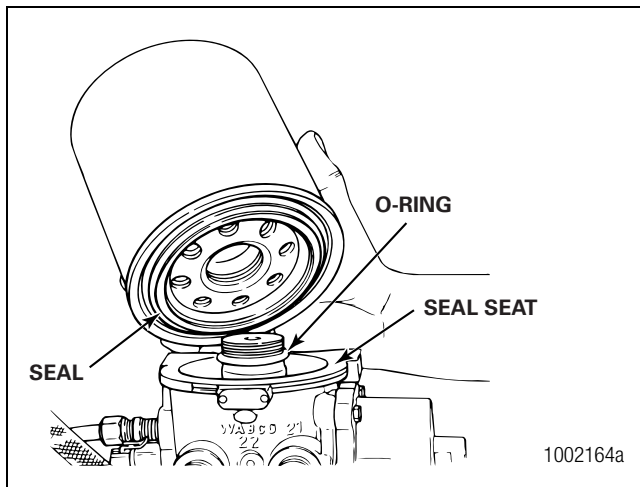

Figure 2.2
7. Thread replacement cartridge onto the base until the seal touches the base. Then, tighten the cartridge **ONE** additional turn. **DO NOT OVERTIGHTEN.** Figure 2.2.